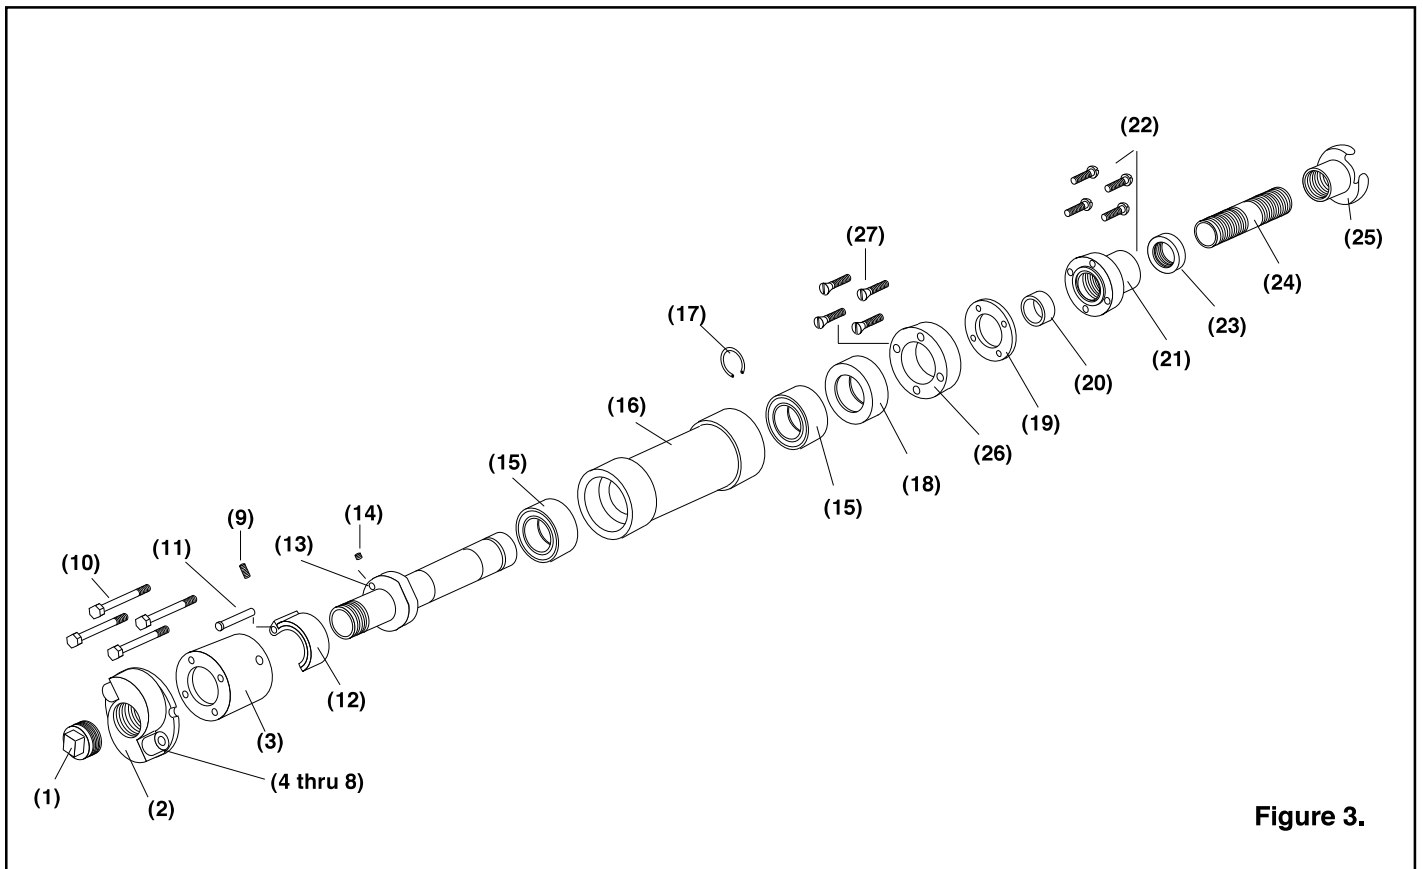

Figure 3.
4.1 Leather Dust Seal (Figure 3)
4.2 Tungsten Carbide Washer (Figure 3)
4.4 Nozzle Head and Plug (Figure 3)
4.5 Brake Lining (Figure 3)
4.6 Lock Ring/Bearing Seal (Figure 3)
5.1 Spin-Blast Tool (Figure 3)